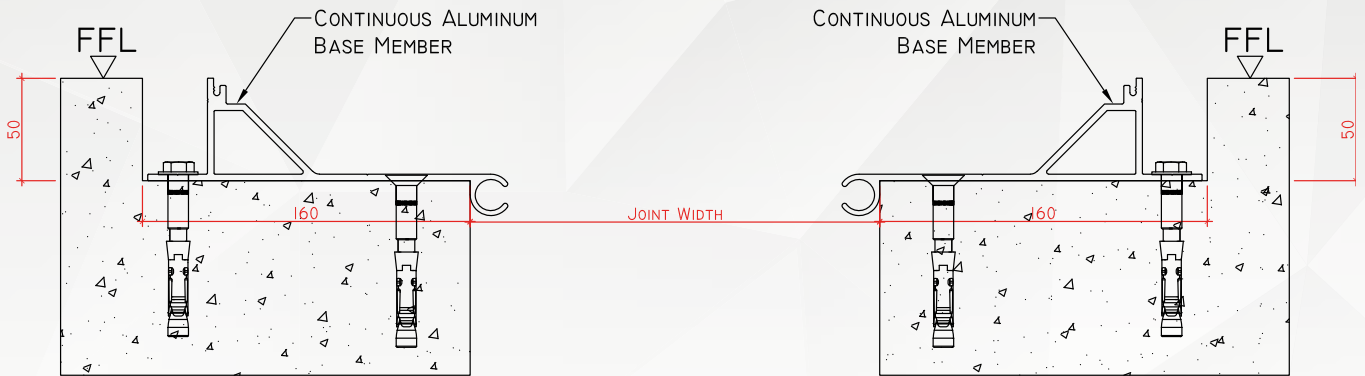
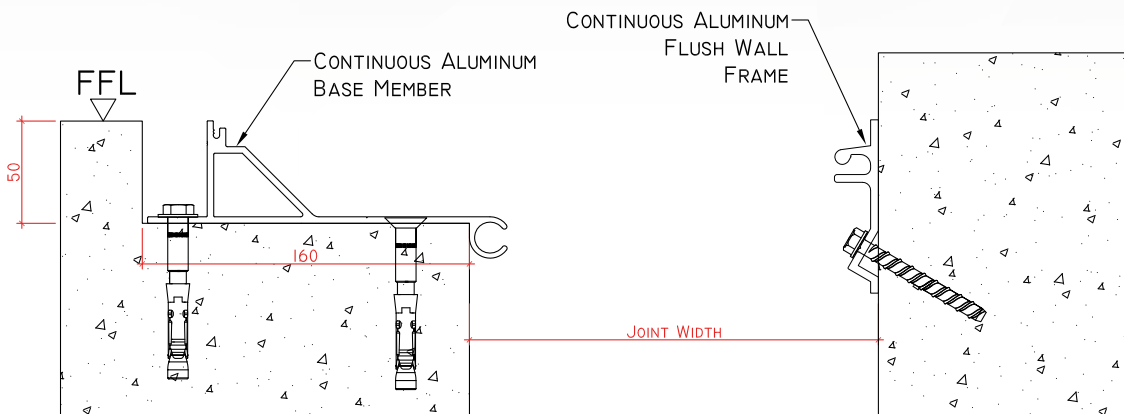

Figure 3.
Figure 4.
- Repeat the procedures given in Step 5 through Step 8 for the opposite base member (see Figure 3 and Figure 4 for Corner). Ensure that the base member is level, plumb, and properly aligned.